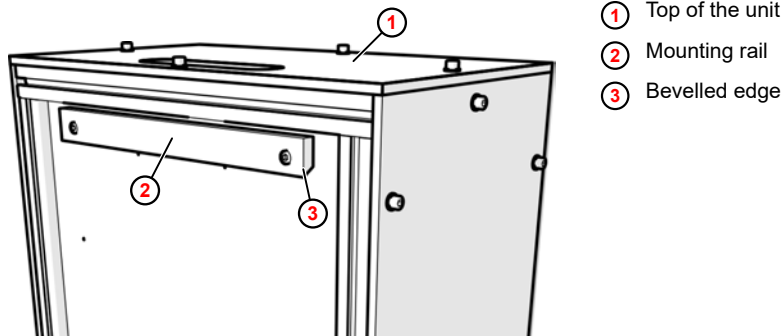
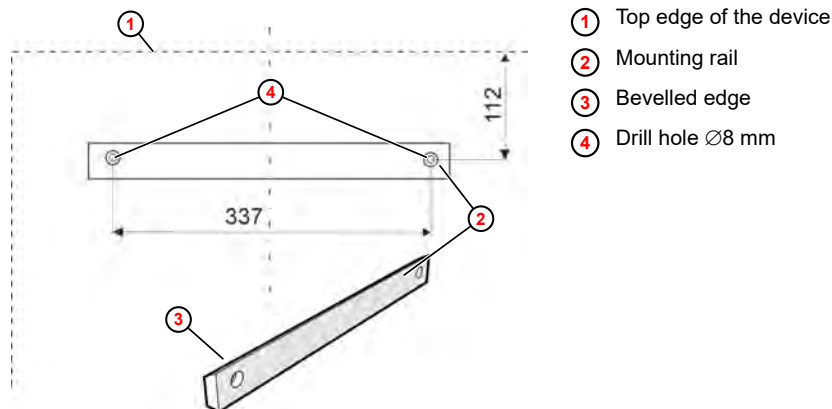

Fig. 6: Mounting rail mounted on the unit
Fig. 7: Mounting the wall mounting
2. ➔ Mark the drill holes on the wall as shown in Fig. 7 and drill Ø8 mm holes.
3. ➔ Screw the mounting rail (2) onto the wall with the bevelled edge (3) facing upwards.
4. ➔ With the help of an assistant, place the unit on the mounting rail on the wall (2) using the rear mounting bar ( Fig. 6 , (2) ) and align it.